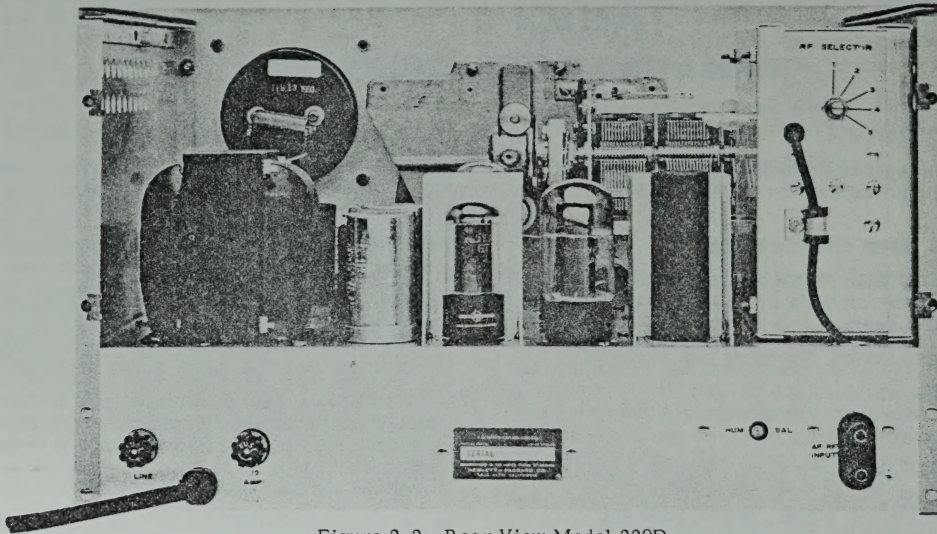

Figure 2-2. Rear View Model 330D
n. HUM BAL adjustment (on rear of instrument; see figure 2-2). Adjusted to minimize internally-generated noise.
(2) RF SELECTOR (on rear; figure 2-2). Selects one of five bands: